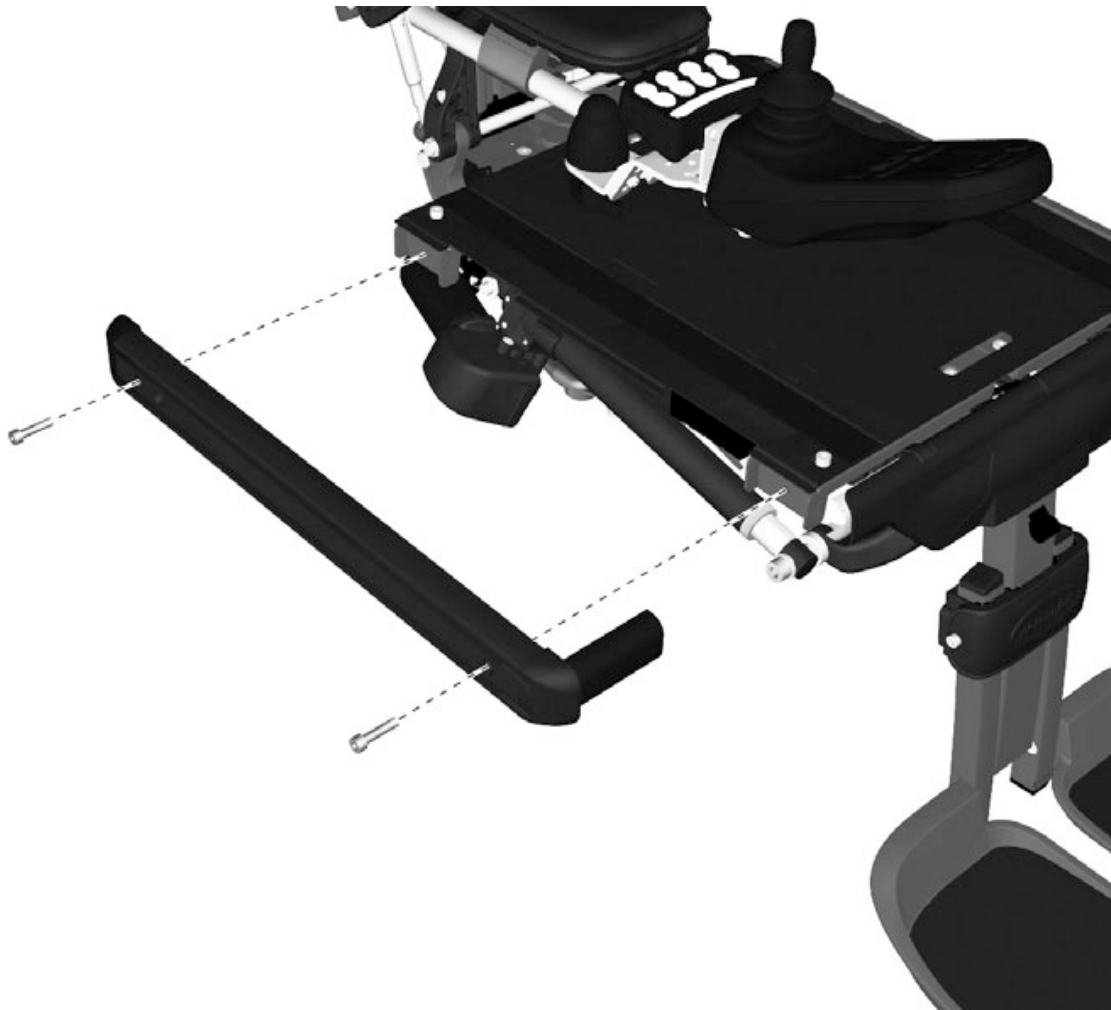

Figure 186. The UniTrack rail is held in place by two screws.
1. Remove the two screws that hold the rail in place. See fig. 186.
1. Assemble the UniTrack rail using two screws. See fig. 186. Use a torque wrench to tighten the screws.